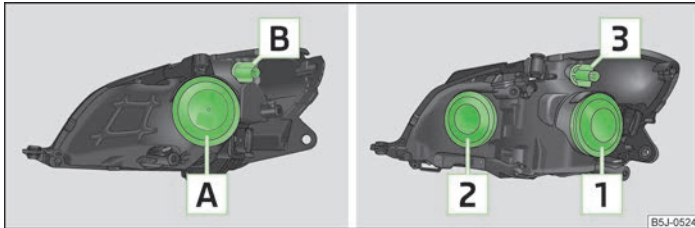

Fig. 146 Bulb arrangement: Halogen headlights/halogen projector headlights
- Remove the rubber cover **A** » Fig. 146 on page 172.
- Remove the rubber cover  » Fig. 146 on page 172.
- Remove the socket  » Fig. 146 on page 172 or the socket  up to the stop in an **anti-clockwise** direction and remove along with the bulb for the turn signal light.
- Remove the rubber cover  » Fig. 146 on page 172 and , .